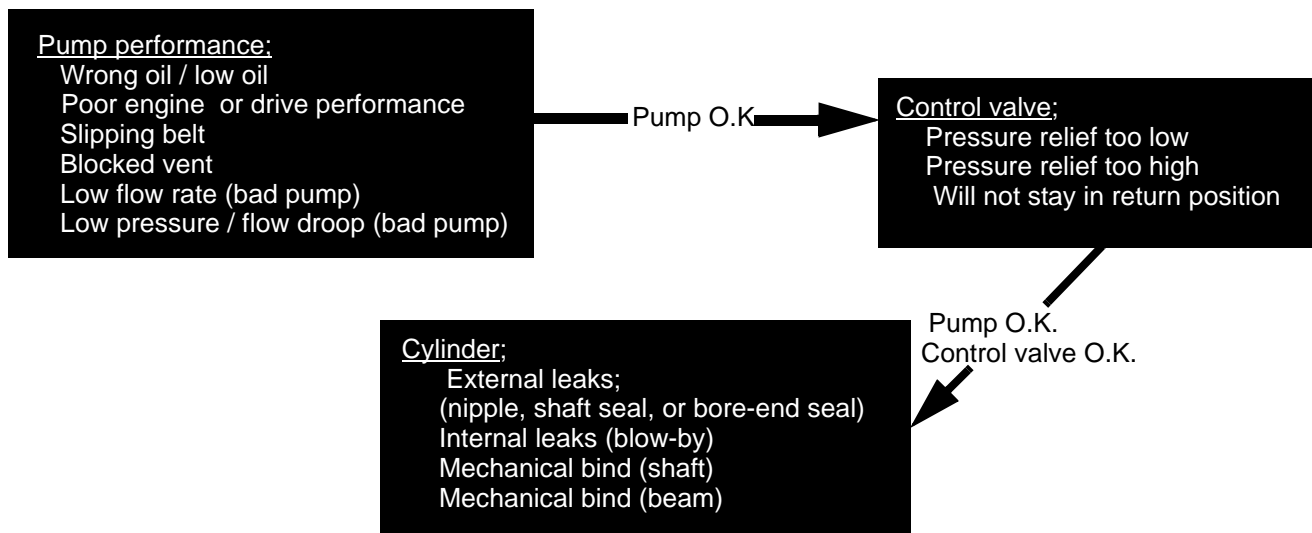

Figure 3.1
3. Use your understanding of the equipment to work in a logical sequence; See Figure 3.1.